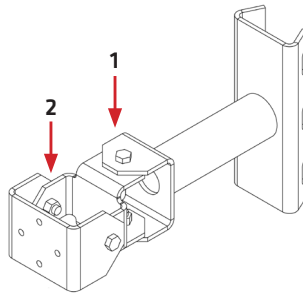

Figure 1.4 – Swivel Joints
- 4** Using the swivel joints (see Figure 1.4), pan and tilt the mount so that the mount head points roughly to target distance in the center of the lanes of interest. (The viewfinder will be used later to help you achieve a more precise alignment.)